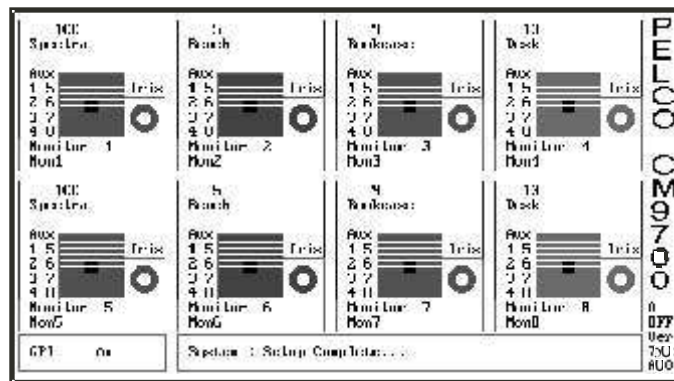

Figure 25. CC1 Initialization
3. Connect a VGA monitor to the CM9700-CC1, as shown in Figure 21. This monitor displays the CC1 system diagnostic screen, as shown in Figure 25.